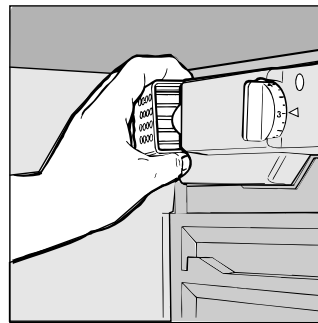

Fig. 2
- Replacing the light bulb. The bulb for lighting the interior of the appliance is located at the back of the thermostat box. Unscrew the burned out bulb and replace it with another bulb with a wattage no higher than 15 Watt, follow the instructions illustrated in fig. 2.